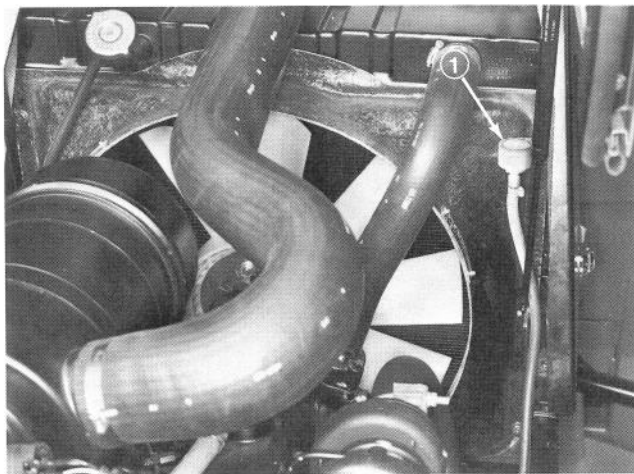

Figure 46
2. Breather is located along right side of radiator (Fig. 46). Clean area around it, unscrew it with a wrench and install replacement.